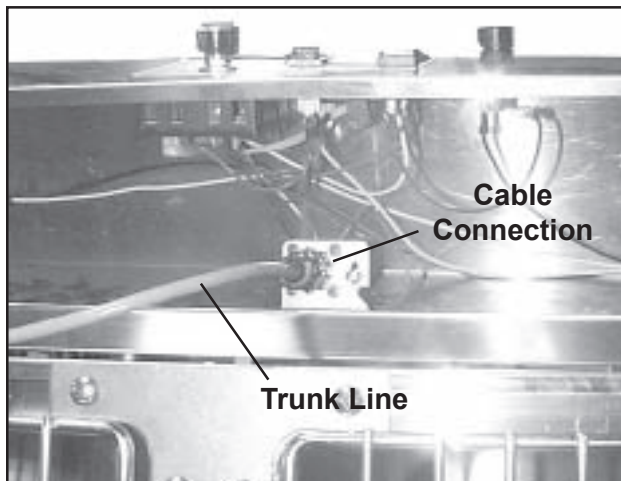

Figure 18. Interior View of Heat Controller Housing (tilted backward)
4. Tilt the heat controller housing backwards so that the open underside faces front (Figure 18).
6. When all the trunk lines are numbered, unplug them all from cable connections on the heat controllers (Figure 18).
2. Turn the heat controller housing over on its back so that the open underside faces front (Figure 18).
3. Making sure that the pins and holes line up correctly, plug the 4-pin plug into the cable connection on Heat Controller No. 1 (Figure 18) and secure the connection by turning the large ring clockwise.